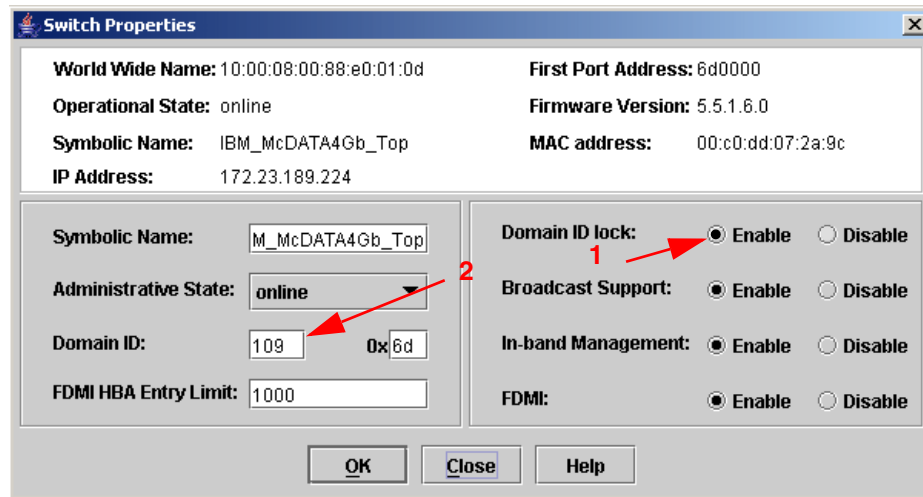

Figure 8-16 Switch Properties window
In our example, we have different types of switches in our fabric. Ensure Standard mode has been selected and click **OK**. Next, select **Switch** → **Switch Properties**. You will see a window similar to Figure 8-16.
- From the Switch Properties dialog (Figure 8-16), enter a symbolic name for your switch. For our example, the name is IBM_McDATA4Gb_Top. Click **Enable** for the Domain ID lock radio button to ensure that the switch always has that Domain ID. In the Domain ID box, type a unique Domain ID in the 97-127 range for the switch (2). In our example, we selected 109 for the DID. Click **OK** to continue.